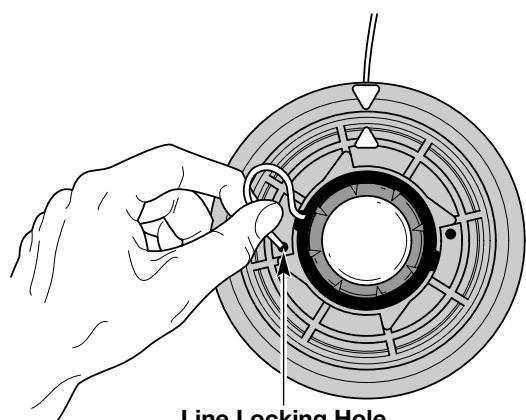

Fig. 43
- Insert the line into the locking hole (Fig. 43). Do not push the line more than a 1/2 inch (12.7 mm) into the line locking hole. The line will form a small loop (Fig. 43) when it is inserted correctly.